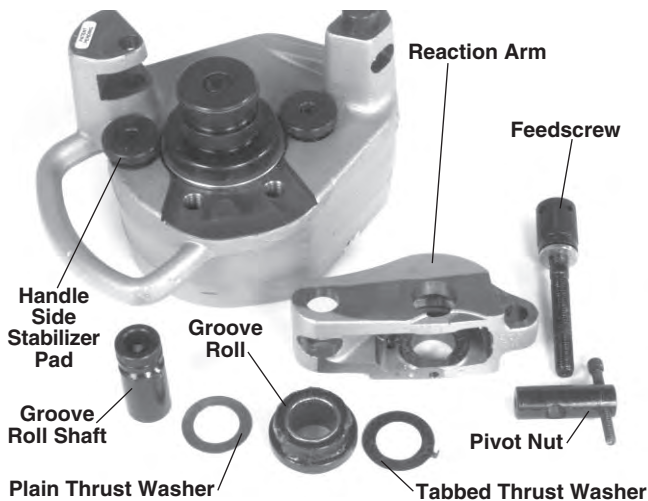

Figure 16 – Parts Call Out
6. Remove feedscrew from pivot pin. Remove pivot pin from reaction arm (Figure 16).
7. Remove the hex screw retaining the drive roll with a $\frac{5}{16}$ " hex key. If removing the 4" – 6" Sch. 40 or 8" – 12" Sch. 10 roll set, remove the drive roll support bolts using a $\frac{3}{8}$ " hex key (Figure 16).
8. Remove stabilizer pad on the handle side of the 915 using a $\frac{3}{16}$ " hex key. If removing the 8" – 12" Sch. 10 roll set remove both stabilizer pads (Figure 16).